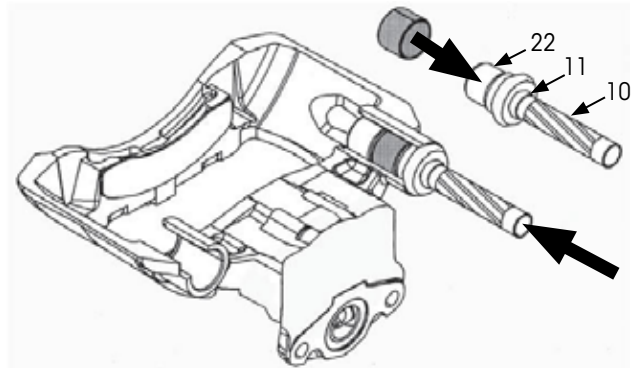

Figure 60: Inserting long guide outer bushing
- B. Assemble and use 10, 11 and 22 to press the outer bushing into the same bore until the tool stops (Figure 60).